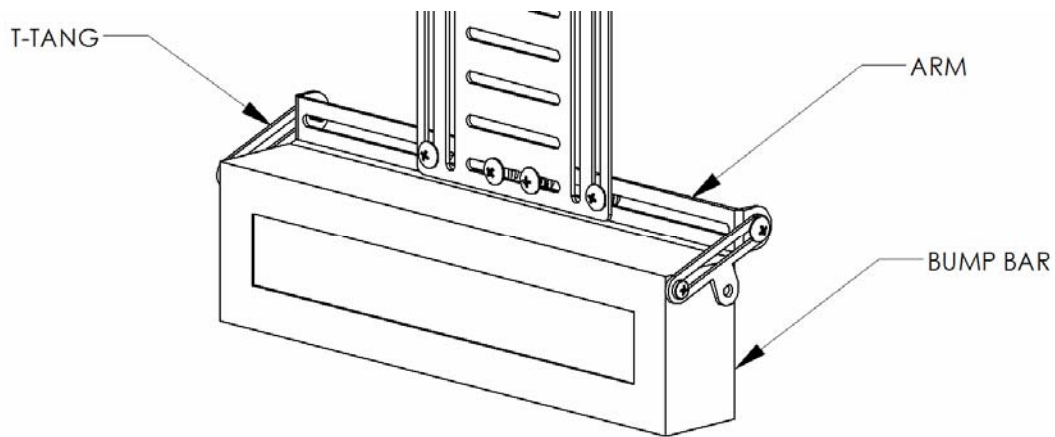

Figure 2 - Back of Screen Controller Mount-RDC with bump bar mounted with T-Tangs and Arms.
6. Assemble the hardware kit to create two arms so that the slots in the arms or tee tangs align with the chassis screw holes on the sides, bottom, or back of the bump bar, and the other ends of the arms align with the slots on the *Back of Screen Controller Mount-RDC* mounting plate (See Figure 2).